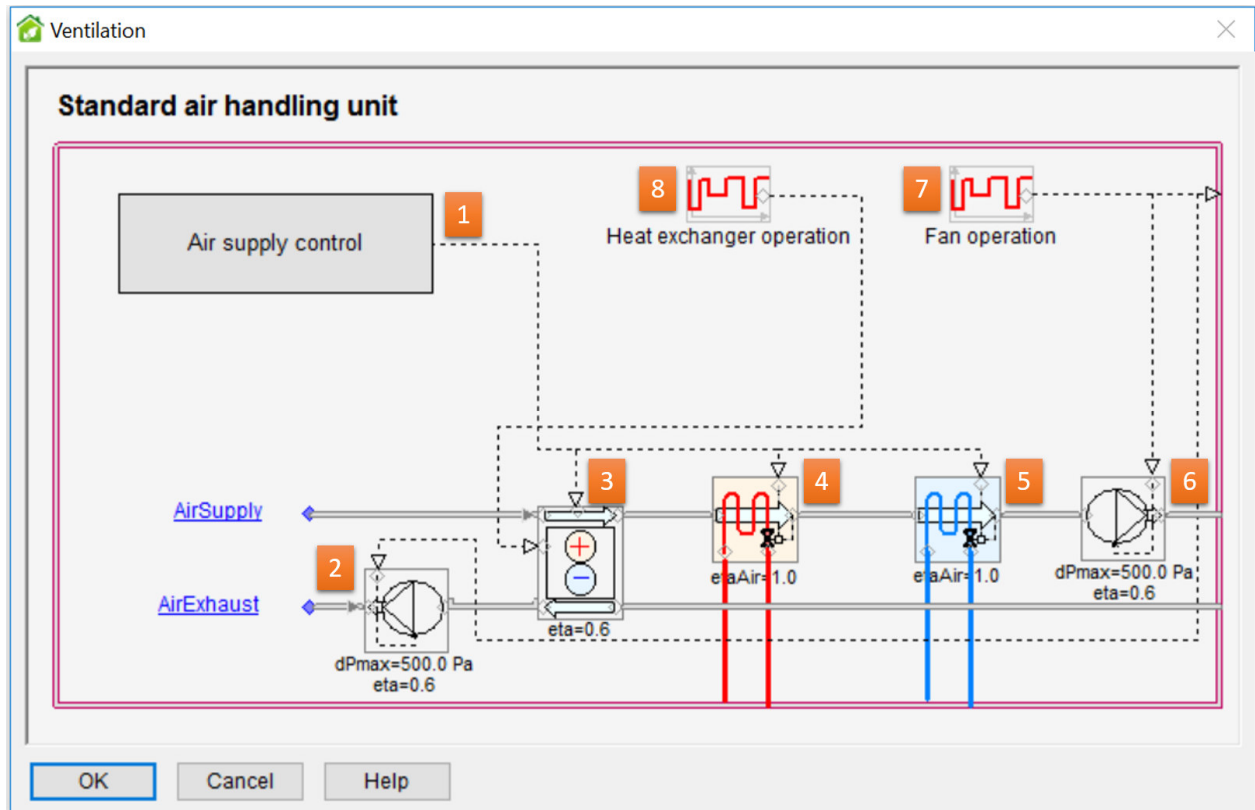

Figure 62.
The standard air handling system consists of the following components Figure 62: supply air temperature setpoint controller (1), exhaust fan (2), heat exchanger (sensible heat exchange only) (3), heating coil (4), cooling coil (5), supply fan (6), schedule (7) for operation of both fans and a schedule for the operation of the heat exchanger (8). The unit provides temperature-controlled air at a given pressure. Some key parameters of individual components are presented in the form; open them to edit. The supply air temperature setpoint is set in the Air distribution system dialog opened by double-clicking on the Air supply control box (1).